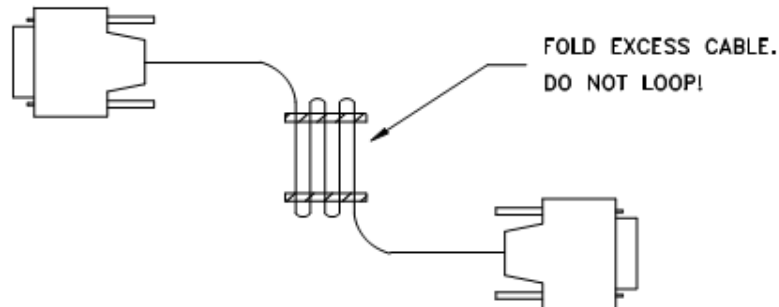

Figure 22: Excess cable bundle
1. The other end of the earth cable connected to the table (08425-084; see figure 22) attaches to an open ground stud inside of the generator as shown in Figure 23 below.